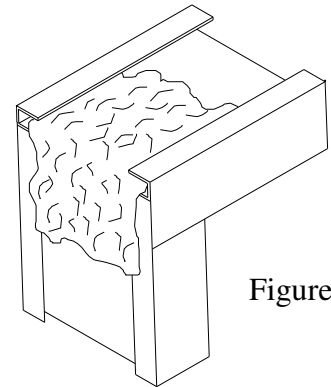

Figure 14
2. Seal frame and vent joints completely with compatible sealant. **IMPORTANT:** Apply a heavy bead of sealant to the interior side of the mounting flange (nail-on) where the frame jamb and sill join. Sealant must cover the entire joint (from the flange to the inside leg) and extend 1 1/2" up the jamb and along the sill. (See Fig. 14).